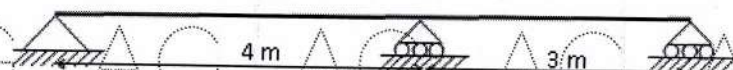

Figure 6
8. Draw the influence line diagram for the reaction at the left support of a continuous beam shown in figure 6. [15]